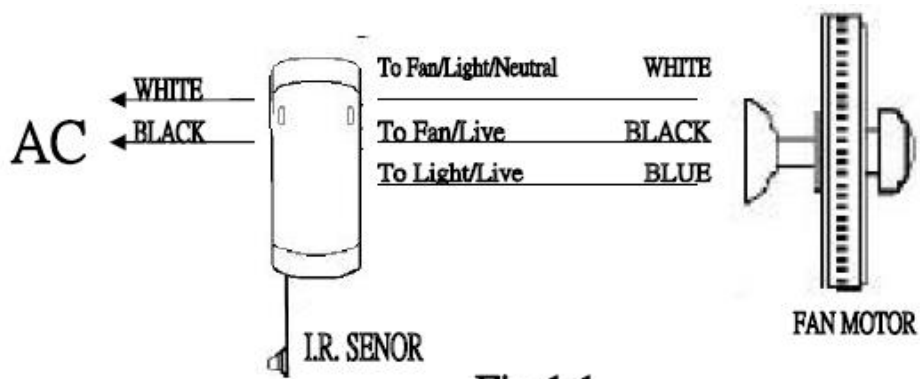

Fig 1.1
3. Make the wiring connection as shown in Fig.1.1 IR sensor must be stuck outside canopy.